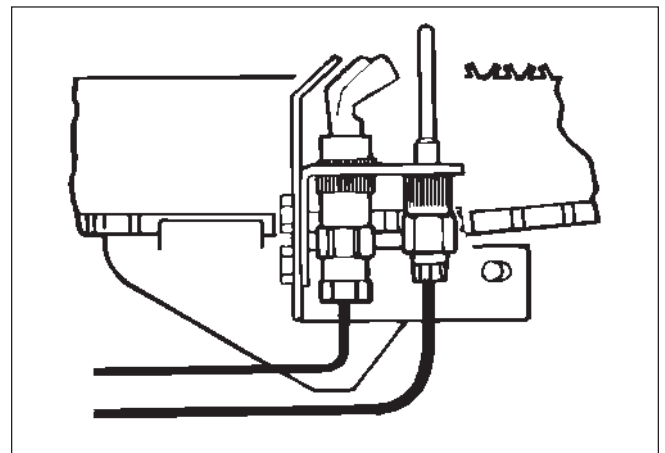

Figure 39. Pilot location (standing pilot).
4. Make sure the pilot burner is positioned next to the main burner (see Figure 39) and there is no soot or dirt on it.